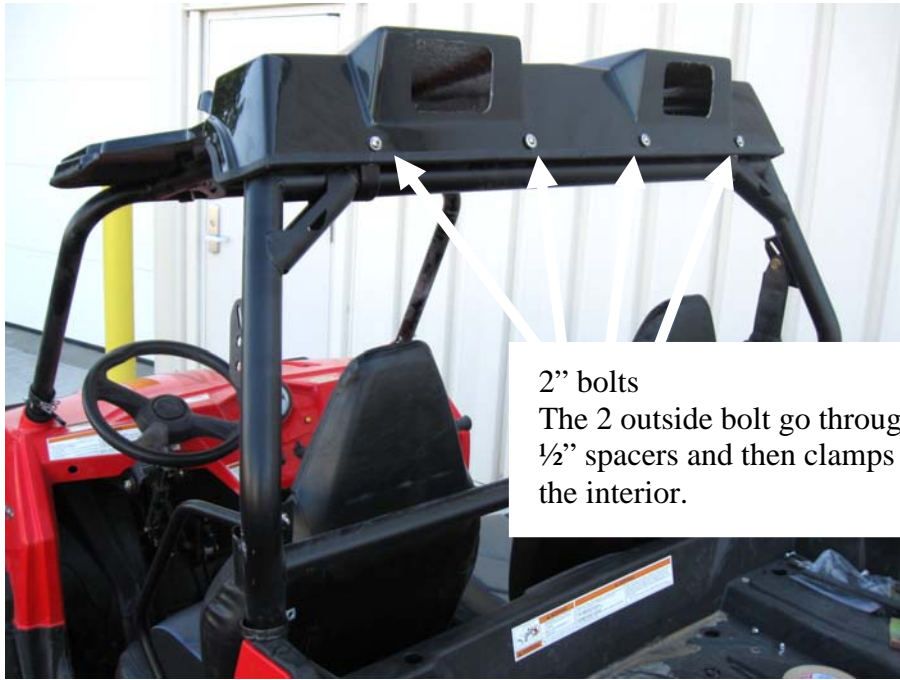

Figure 7
9. Insert the fasteners in the rear roof holes as shown. Place a 1/2-inch spacer on the two outside bolts and then align the clamps and fasten. See figure 7.